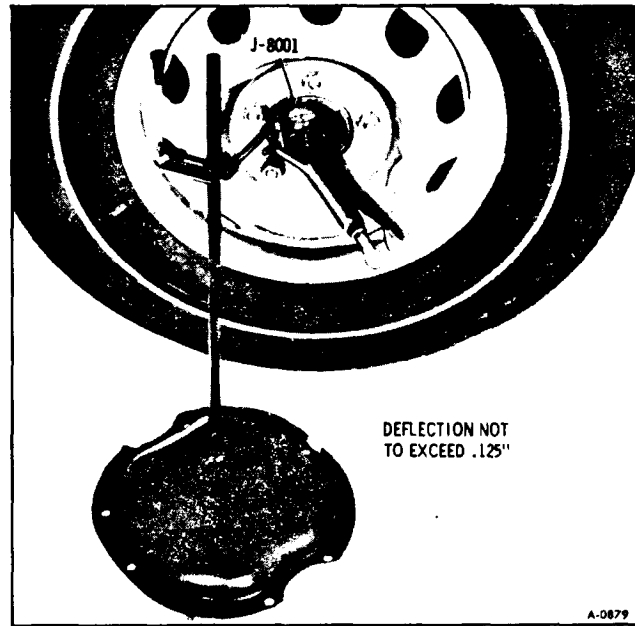

Figure 25—Ball Joint Vertical Check
2. Position dial indicator as shown in Figure 25.